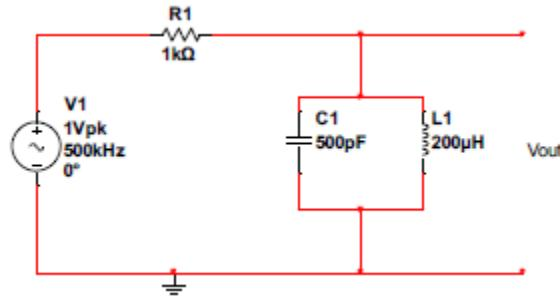

Figure 6: Detection circuit response analysis
- a) Calculate the resonance frequency of the following circuit shown in Figure 6. What should be the output voltage at resonant frequency and why?
- b) Simulate the circuit in Figure 6 using AC analysis, to get the response over the frequency range from 1 Hz-100 MHz (choose linear scaled frequency axis and around 100 point per decade). Add your simulated results plot below and save your simulation file as "Proj-A-1b.ms14".
- e) Simulate the circuit in Figure 6 using AC analysis again with a parallel resistor to the LC, to get the response over the frequency range from 100 kHz-10 MHz (choose linear scaled frequency axis). Add your simulated results plot below and save your simulation file as "Proj-A-1e.ms14".
- a) Perform a DC and a small signal analysis of the circuit shown below in Figure 6 and find the value of the parameters listed in Table below at **resonance frequency**.